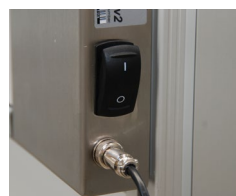

fig. 3.1-38
Step 29 Putting into operation: Plug the 24V barrel connector of the provided adapter **C3** into the 24V jack of the **twall®**. The jack and the switch can be found at the right stainless steel frame cover. Now connect the adapter to the power supply line and plug it into a 200V/ 10A socket and switch on the **twall®** (**fig. 3.1-38**). All lights will flash up for a short moment and the **twall®** is ready to operate.